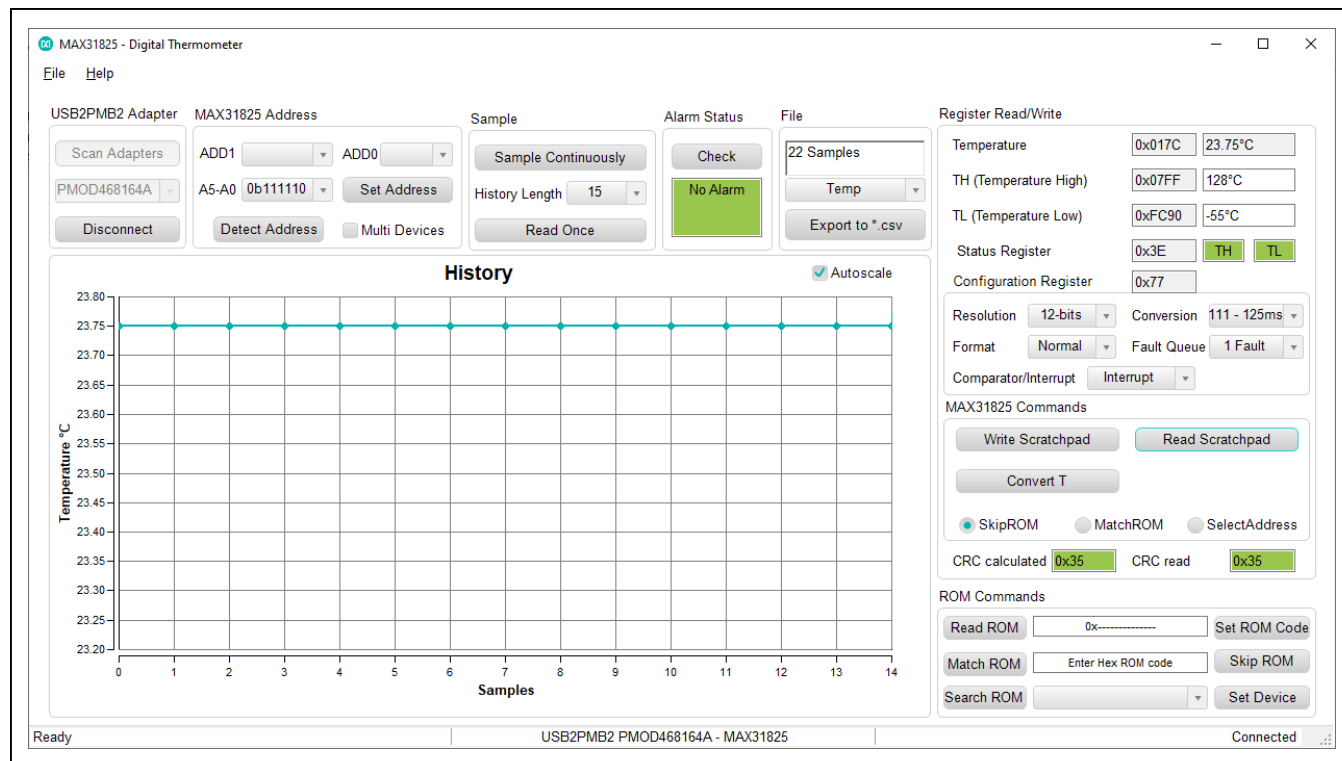

Figure 3. Measuring Temperature on the MAX31825
- 11) Start evaluating the MAX31825 by clicking the **Sample Continuously** button. Figure 3 shows the MAX31825 measuring temperature.